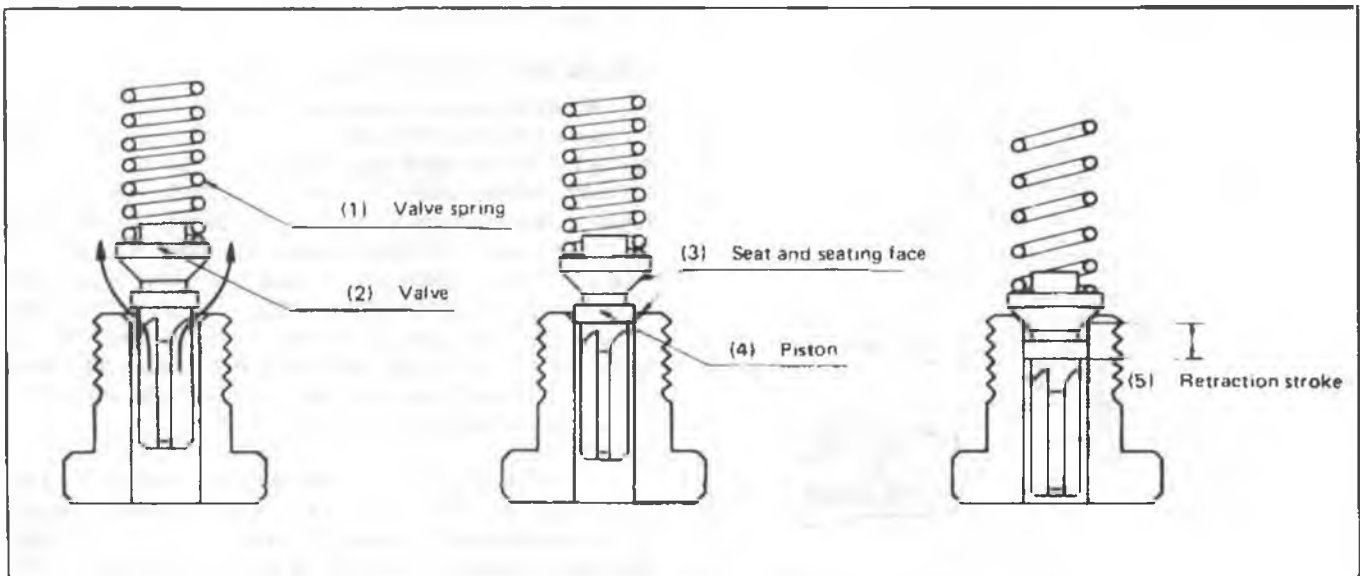

Fig. 4-11 Delivery Valve Action
DELIVERY VALVE (Fig. 4-11)
As shown in figure 4-11, this valve incorporates a piston (4) arrangement. When the valve is pushed against the seat (3), the retraction of the piston in the delivery valve reduces the pressure in the injection pipe, cleanly cutting off injection and preventing dribble.